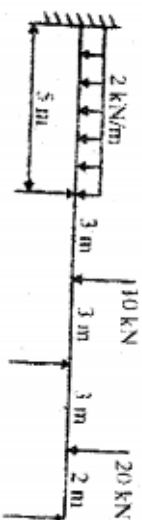

FIG 5
4. Analyze the beam given in Fig.5 by slope deflection method and draw its bending moment diagram and shear force diagram.